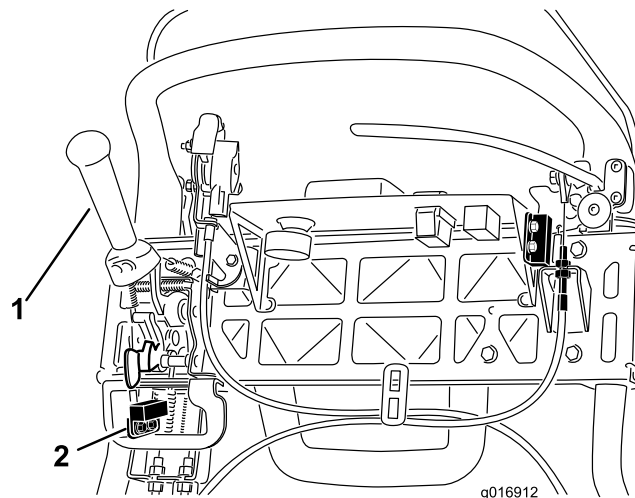

Figure 38
4. Loosen the interlock switch mounting fasteners (Figure 38).
5. Place a 1.6 mm (.062 inch) thick shim between the traction lever and the interlock switch (Figure 38).